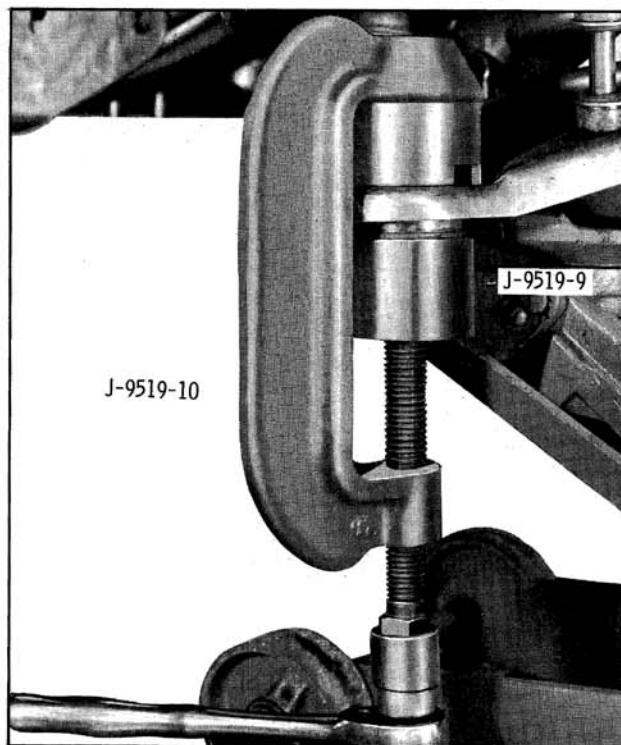

Fig. 9-29 Installing Lower Ball Joint
5. Install new ball joint assembly as shown in Fig. 9-29.